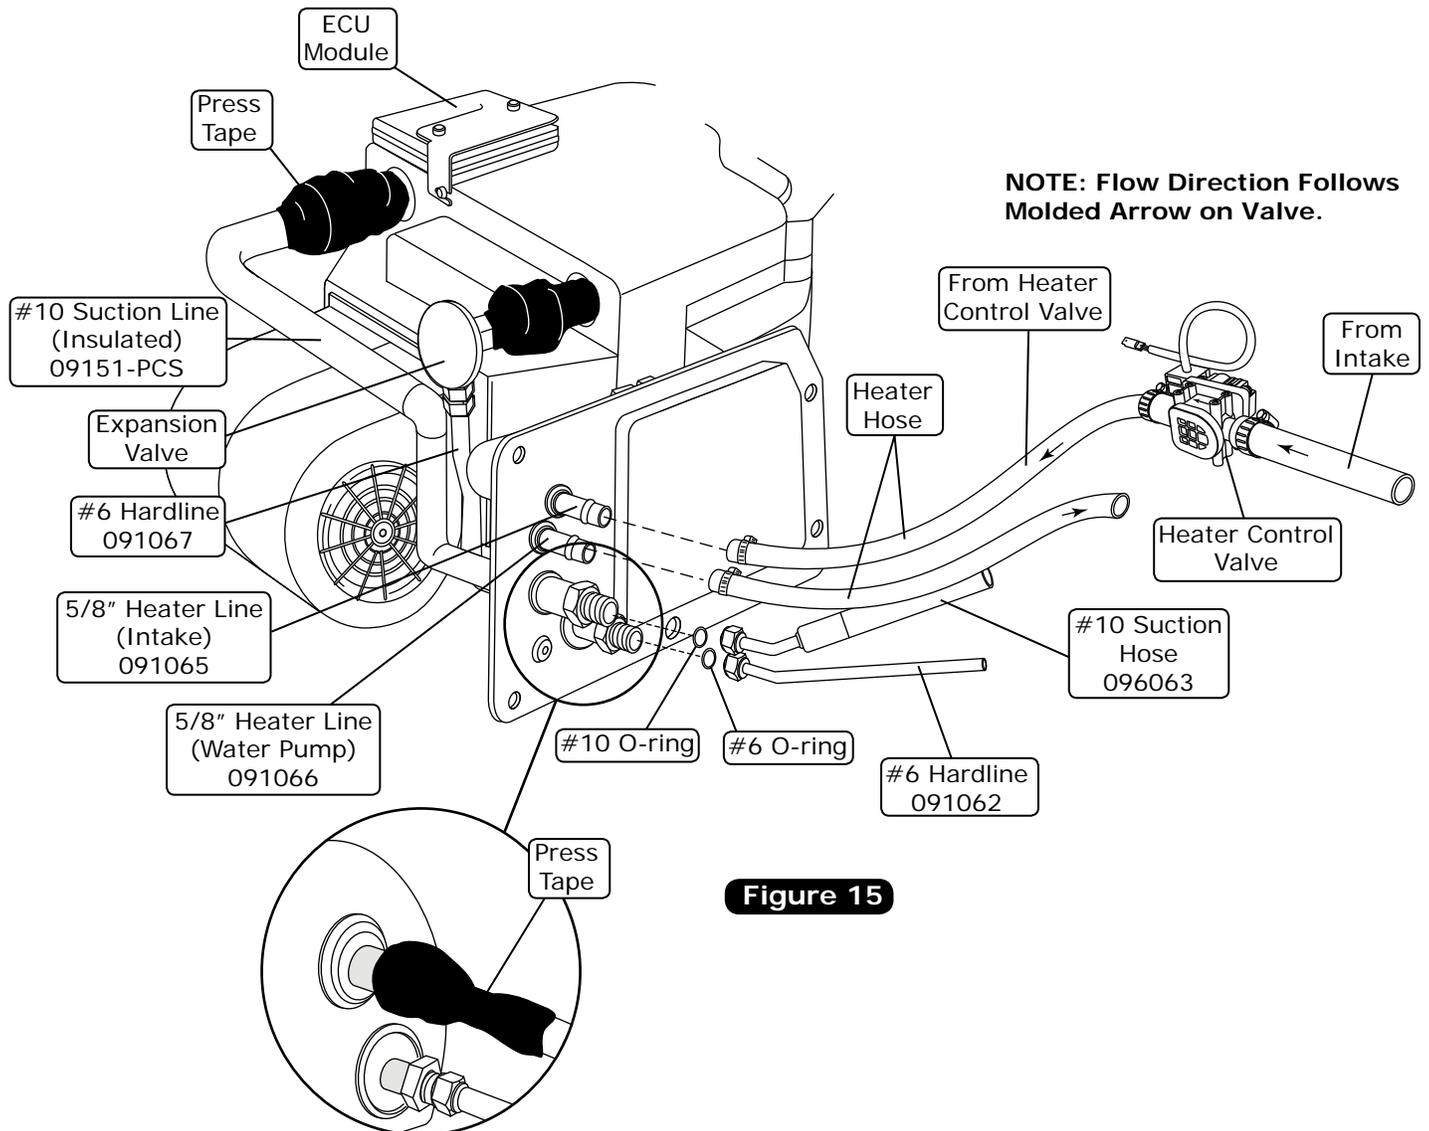
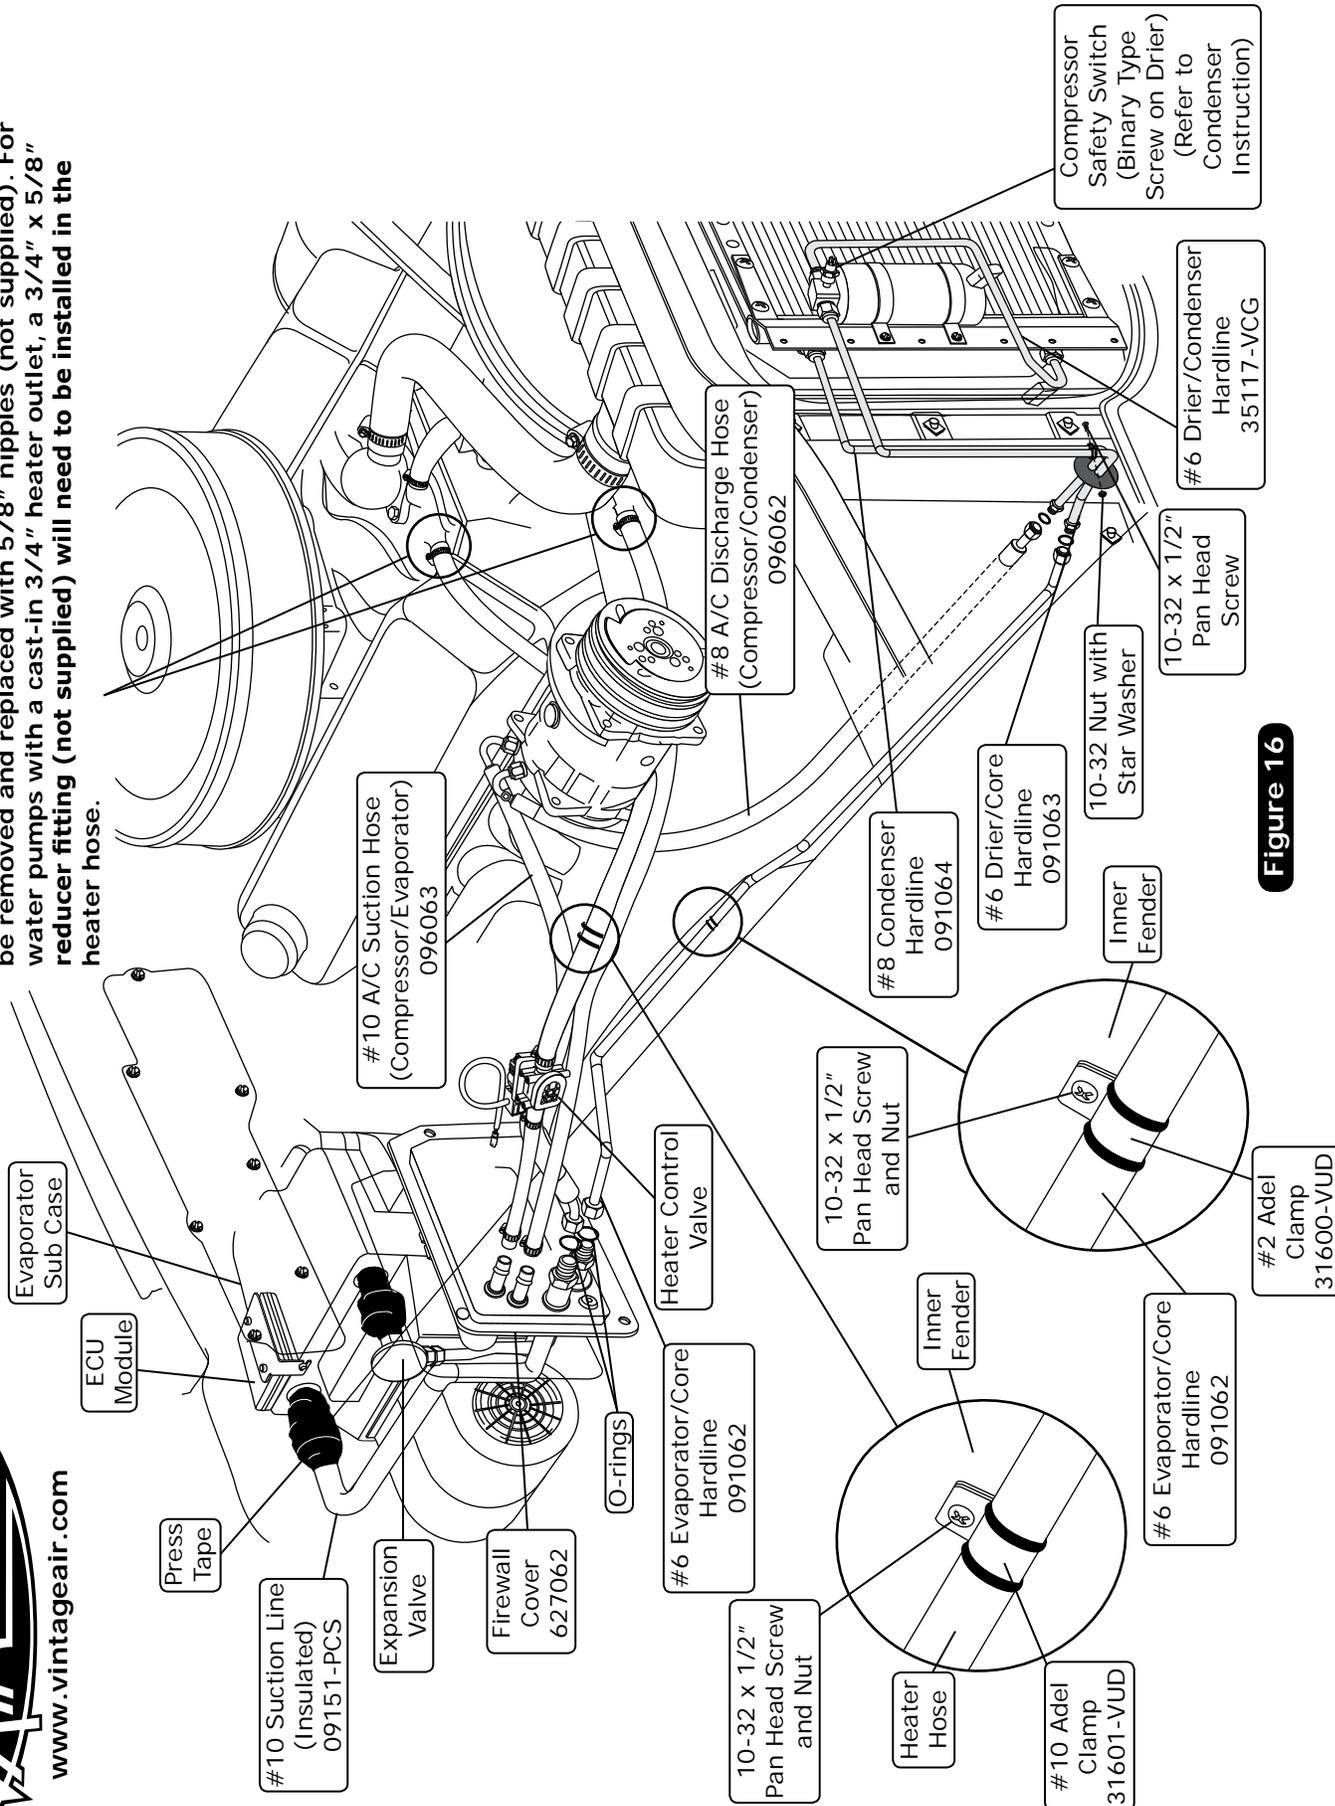

Figure 15
Figure 16
1. Locate the #8 compressor A/C hose. Lubricate (2) #8 O-rings (See Figure 14, above) and connect the 135° female fitting with 134a service port to the #8 discharge port on the compressor. Then route the straight female fitting to the #8 condenser hardline coming through the core support (See Figure 16, Page 16). Tighten each fitting connection as shown in Figure 14, above.
2. Locate the #10 compressor A/C hose. Lubricate (2) #10 O-rings (See Figure 14, above) and connect the #10 135° female fitting with 134a service port to the #10 suction port on the compressor. Then route the 45° female fitting to the #10 evaporator hardline coming through the firewall (See Figure 16, Page 16). Tighten each fitting connection as shown in Figure 14, above. **NOTE: Wrap the #10 fitting connections with press tape (See Figure 15, Page 15).**
3. Locate the #6 evaporator/core hardline. Lubricate (2) #6 O-rings (See Figure 14, above) and connect the hardline to the #6 hardline coming through the core support from the drier. Then attach the other end of the hardline with lubricated O-ring to the #6 evaporator hardline coming through the firewall (See Figure 16, Page 16). Tighten each fitting connection as shown in Figure 14, above.
4. Use a #2 and a #10 Adel clamp to secure the #6 evaporator/core hardline and the 5/8" heater hose to the inner fenderwell as shown in Figure 16, Page 16. Secure the Adel clamps to the inner fender using (2) 10-32 x 1/2" pan head screws with nuts.
1. Route the heater hose from the water pump to the heater line coming through the firewall as shown in Figure 15, below. Secure using hose clamps.
2. Route the heater hose from the intake to the heater line coming through the firewall as shown in Figure 15, below. **NOTE: Install the heater control valve in line with the intake manifold (pressure side) heater hose, and secure using hose clamps. Also note proper flow direction.**